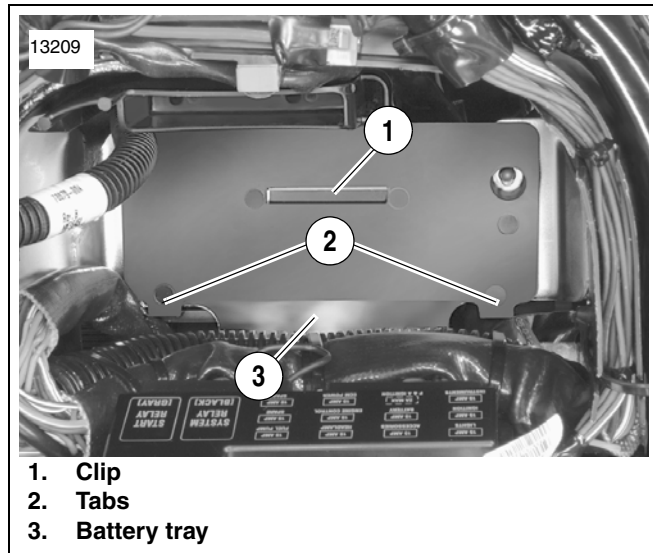

Figure 2. Battery Caddy
6. See Figure 2. Clip battery caddy to front of battery tray. Be sure tabs (2) of caddy fit over rear of battery tray (3).